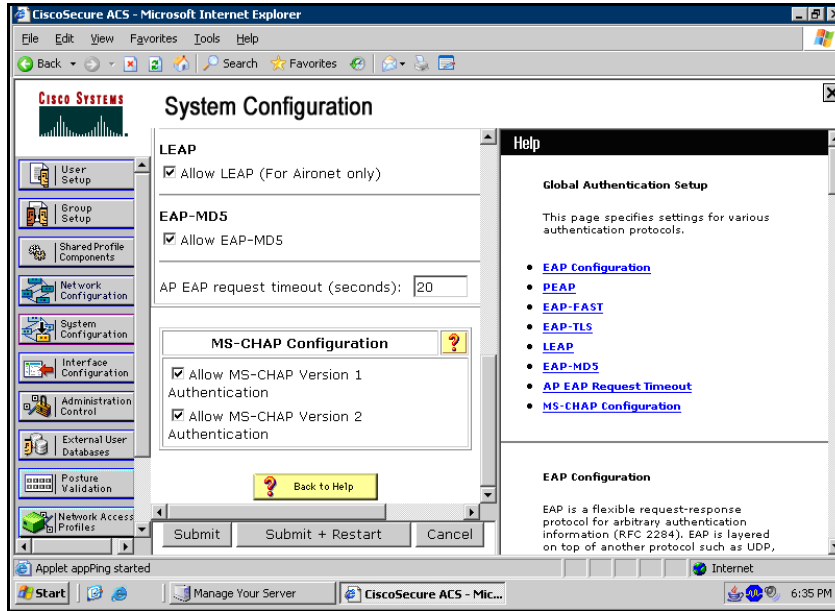

FIG. 55 EAP-LEAP sample Cisco System Security page
- Refer to FIG. 55 for an example of how a typical EAP-LEAP system configuration page should appear.